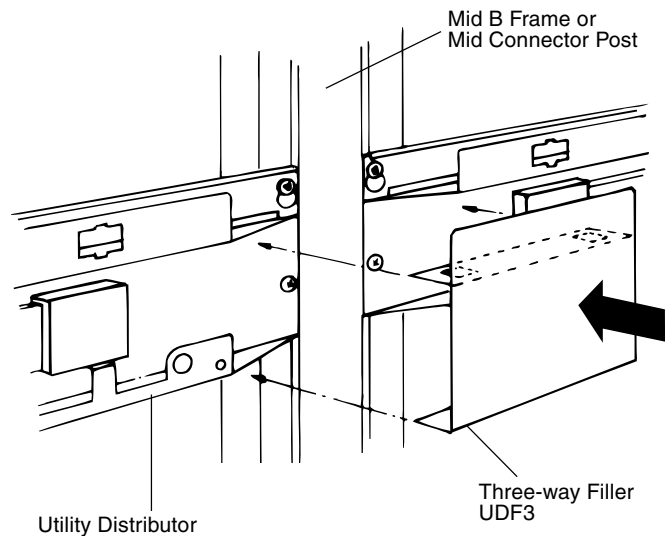

Figure 2
4. Align Three-way Filler between Utility Distributors, inserting Z tabs of Filler over the top channel's bottom. Gently push in Filler till it's even with the face of the UD. (Figure 2)
7. Position prongs of the Receptacle Removal Tool above and below the receptacle. Push-in until a double snap is heard. Pull receptacle out with tool. (Figure 2)